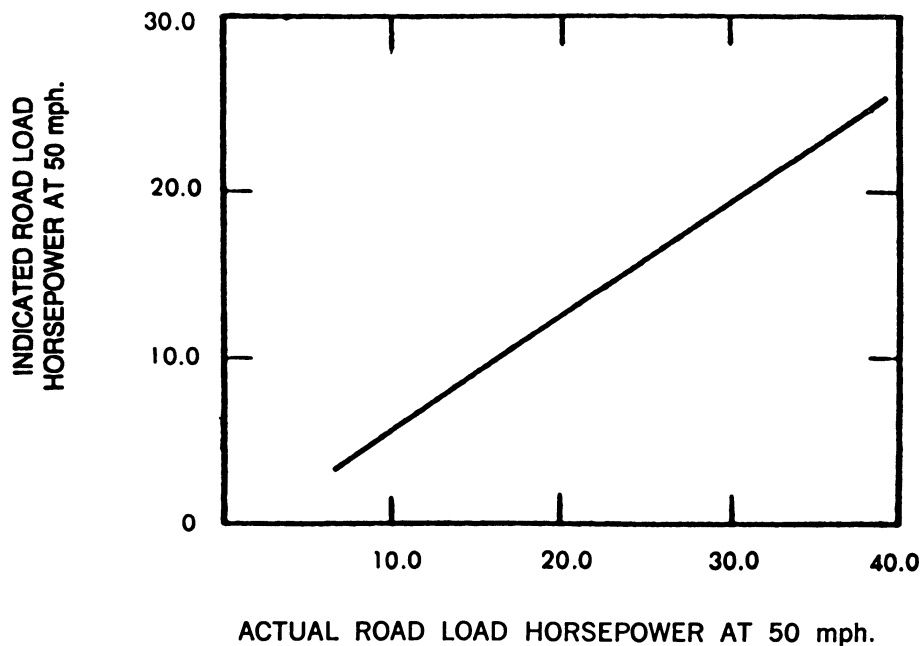

FIGURE B78-5—ROAD LOAD HORSEPOWER, ACTUAL VS. INDICATED
(2) Place a vehicle on the dynamometer or devise another method of driving the dynamometer.
(3) Engage the inertial flywheel or other inertial simulation system for the most common vehicle mass category for which the dynamometer is used. In addition other vehicle mass categories may be calibrated, if desired.
(4) Drive the dynamometer up to 50.0 mph (80.5 km/h).
(5) Record indicated road power.
(6) Drive the dynamometer up to 60.0 mph (96.9 km/h).
(7) Disengage the device used to drive the dynamometer.
(8) Record the time for the dynamometer drive roll to coastdown from 55.0 mph (88.5 km/h) to 45 mph (72.4 km/h).
(9) Adjust the power absorption unit to a different level.
(10) Repeat steps (4) to (9) above sufficient times to cover the range of road power used.
(11) Calculate absorbed road power (HP_d). See paragraph (c) of this section.
(12) Plot indicated road load power at 50 mph (80.5 km/h) versus road load power at 50 mph (80.5 km/h) as shown in Figure B78-5.